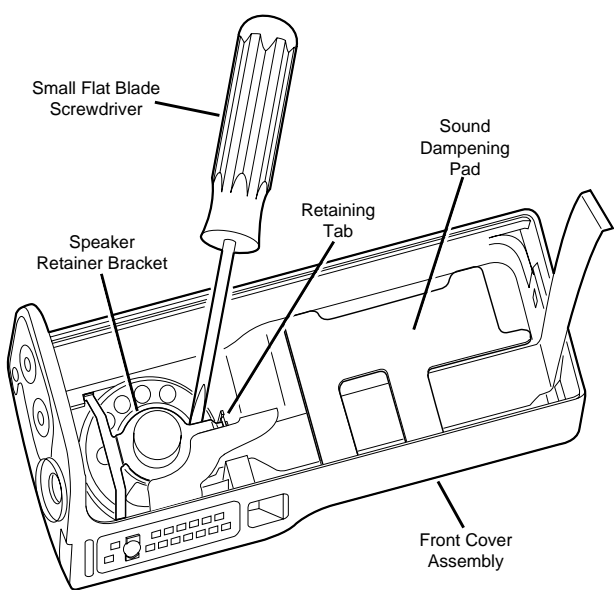

Figure 40-11.
- 3. Remove the speaker retainer bracket, speaker, microphone, and front cover flex from the front cover housing (see Figure 40-11).